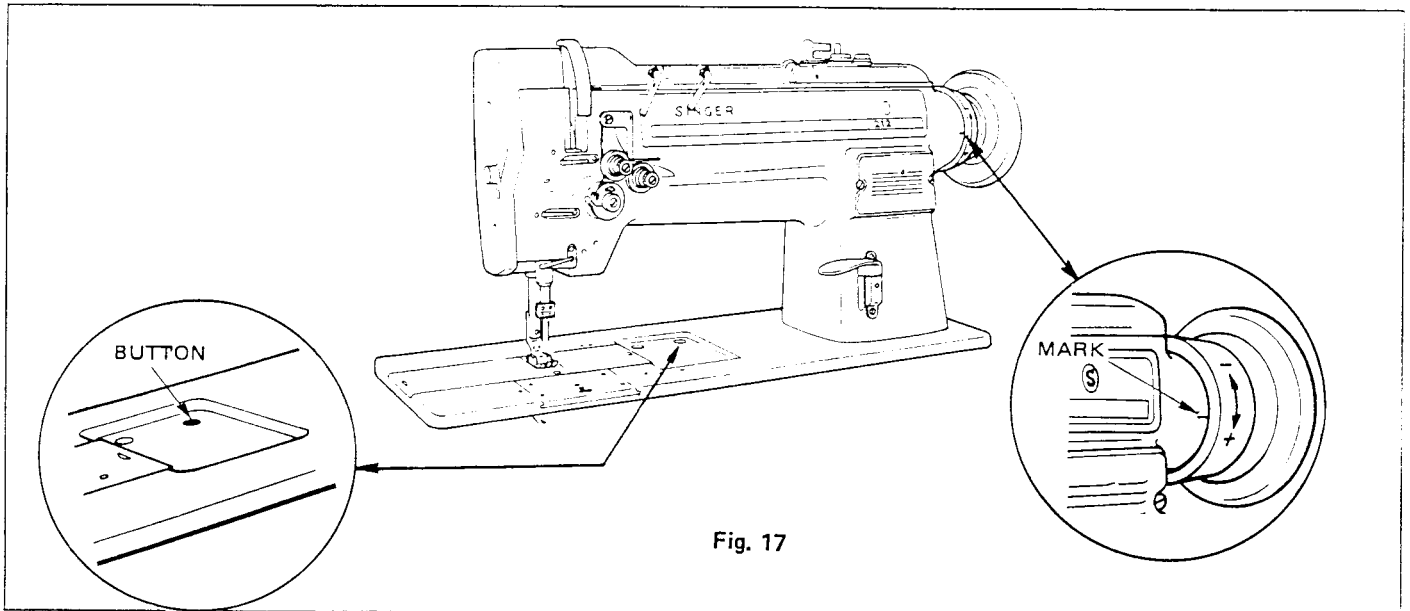

Fig. 17
1. With machine OFF, depress button shown in Fig. 17 on bed surface. NEVER DEPRESS BUTTON WHEN MACHINE IS ON.